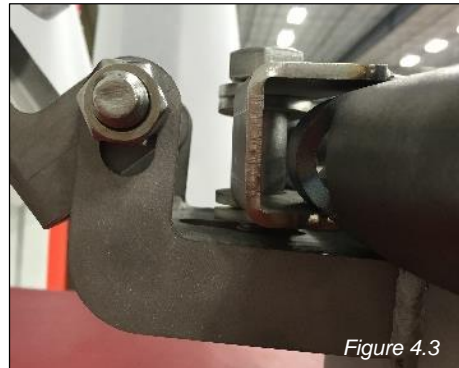

Figure 4.3
4. Hinge pins for both the strap hinge and the cover/body hinge are expected to move within the slotted holes. Movement is not a cause for attention. (Figure 4.3 & 4.4)